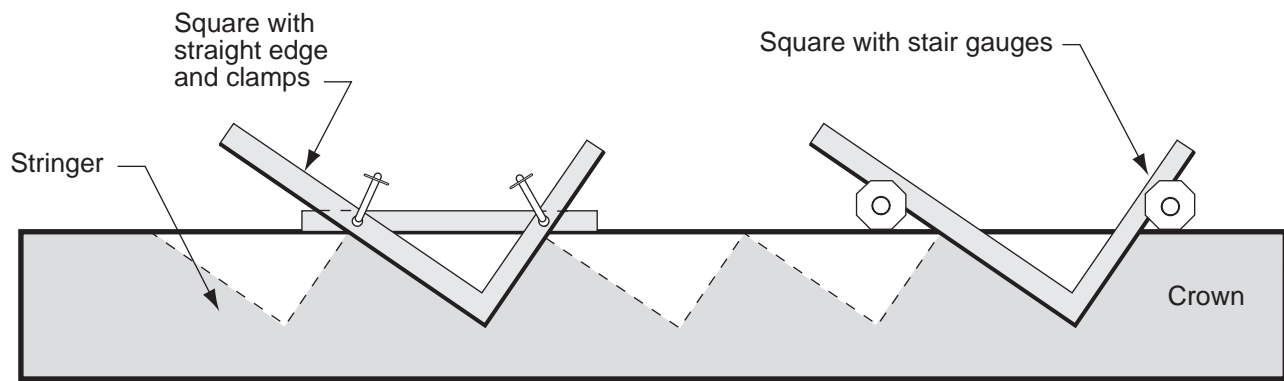

Fig. 1-4 Using framing square and ruler to mark stringer
2. Now, clamp a straight edge to the square on the outside of those marks. You are now ready to mark your stringer. This can also be done using small clamps called stair gauges that are made strictly for marking rise and run. Please note Fig. 1-4 here.